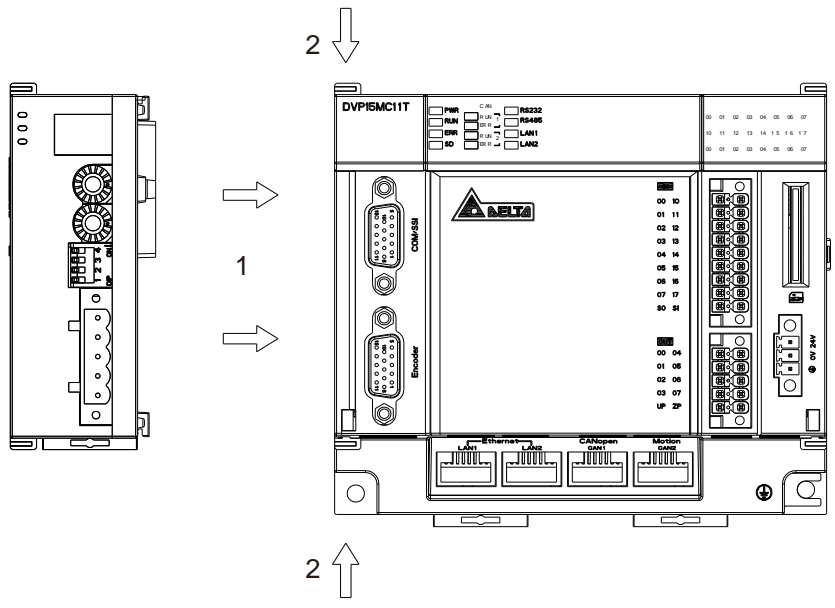

Figure 5.1.3.1
- Pull open the extension module clips on the top left and bottom left of DVP-15MC series motion controller and install DVPDNET-SL along four mounting holes in the four angles of DVP-15MC series motion controller as step 1 in figure 5.1.3.1.
- Press the clips respectively on the top left and bottom left of DVP-15MC series motion controller to fix the module tightly and ensure that their contact is normal as step 2 in figure 5.1.3.1.